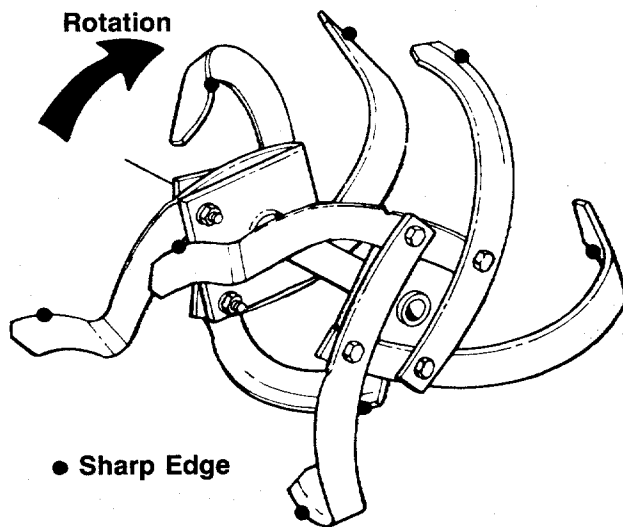

FIGURE 15.
1. Before operating tiller for the first time or if tines have been removed and reassembled for any reason, check to be certain the tines are assembled correctly. **The sharp edge of the tines must enter the soil first as shown in figure 15.** (Figure 15 illustrates the left hand tines, viewed from the left hand side of the tiller. Right hand tines rotate in the same direction as the left hand tines.)